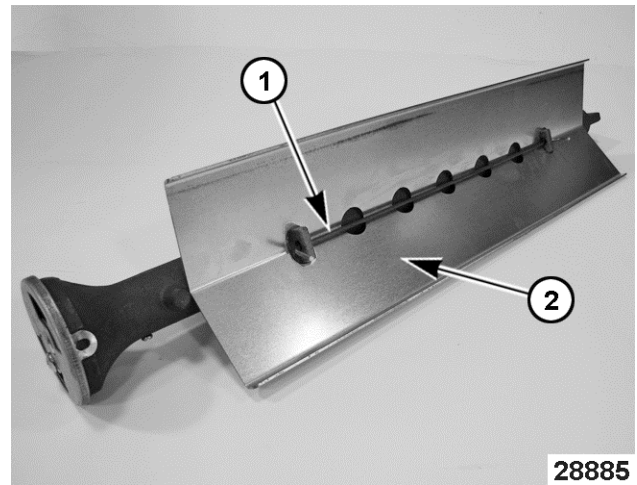

Fig. 61
4. Remove burner rod (1, Fig. 61) securing deflector (2, Fig. 61) to burner.